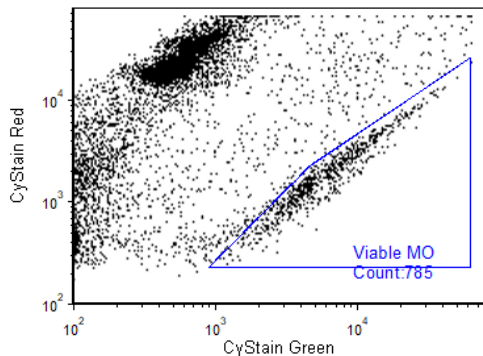
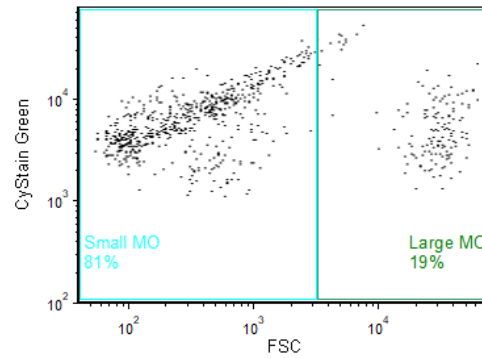

Figure 1: Analysis of a red wine sample: CyStain™ Green plotted vs. CyStain™ Red. Viable microorganisms are located in the blue “Viable MO” region
Figure 2: Analysis of a wine sample spiked with various microorganisms: Cell size (FSC) vs. CyStain™ Green separating small and large MO
- Count viable microorganisms in “Viable MO.” (Fig. 1), count viable small microorganisms in “Small MO” (Fig. 2) and count viable large microorganisms in “Large MO” (Fig. 2).